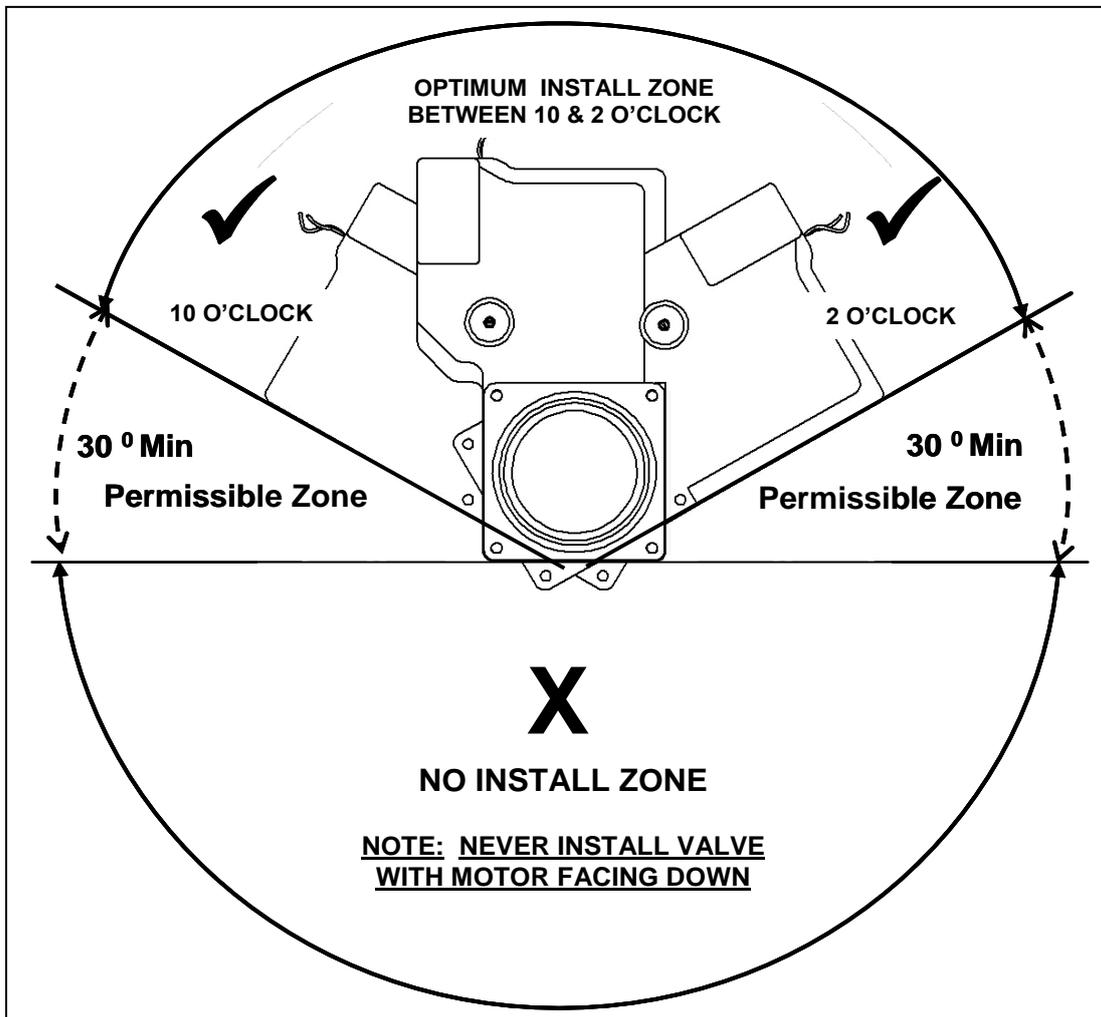

Fig.4
- Never install the Drain Master with the motor/gear/gate housing down. Must be installed vertically (see Fig. 4 how to install)
Step 7: Pay careful attention to the Optimum Install Zone shown in **Fig. 4** – the most ideal position is vertical with the motor up at the highest point.
Ref to Fig. 4: The optimum install zone is between 10 O'clock and 2 O'clock and within this zone the most ideal orientation is vertical (90 Deg). If the optimum zone Installation is not feasible, installation within the 30 Deg Permissible zone is acceptable. Refer Step 7 above.